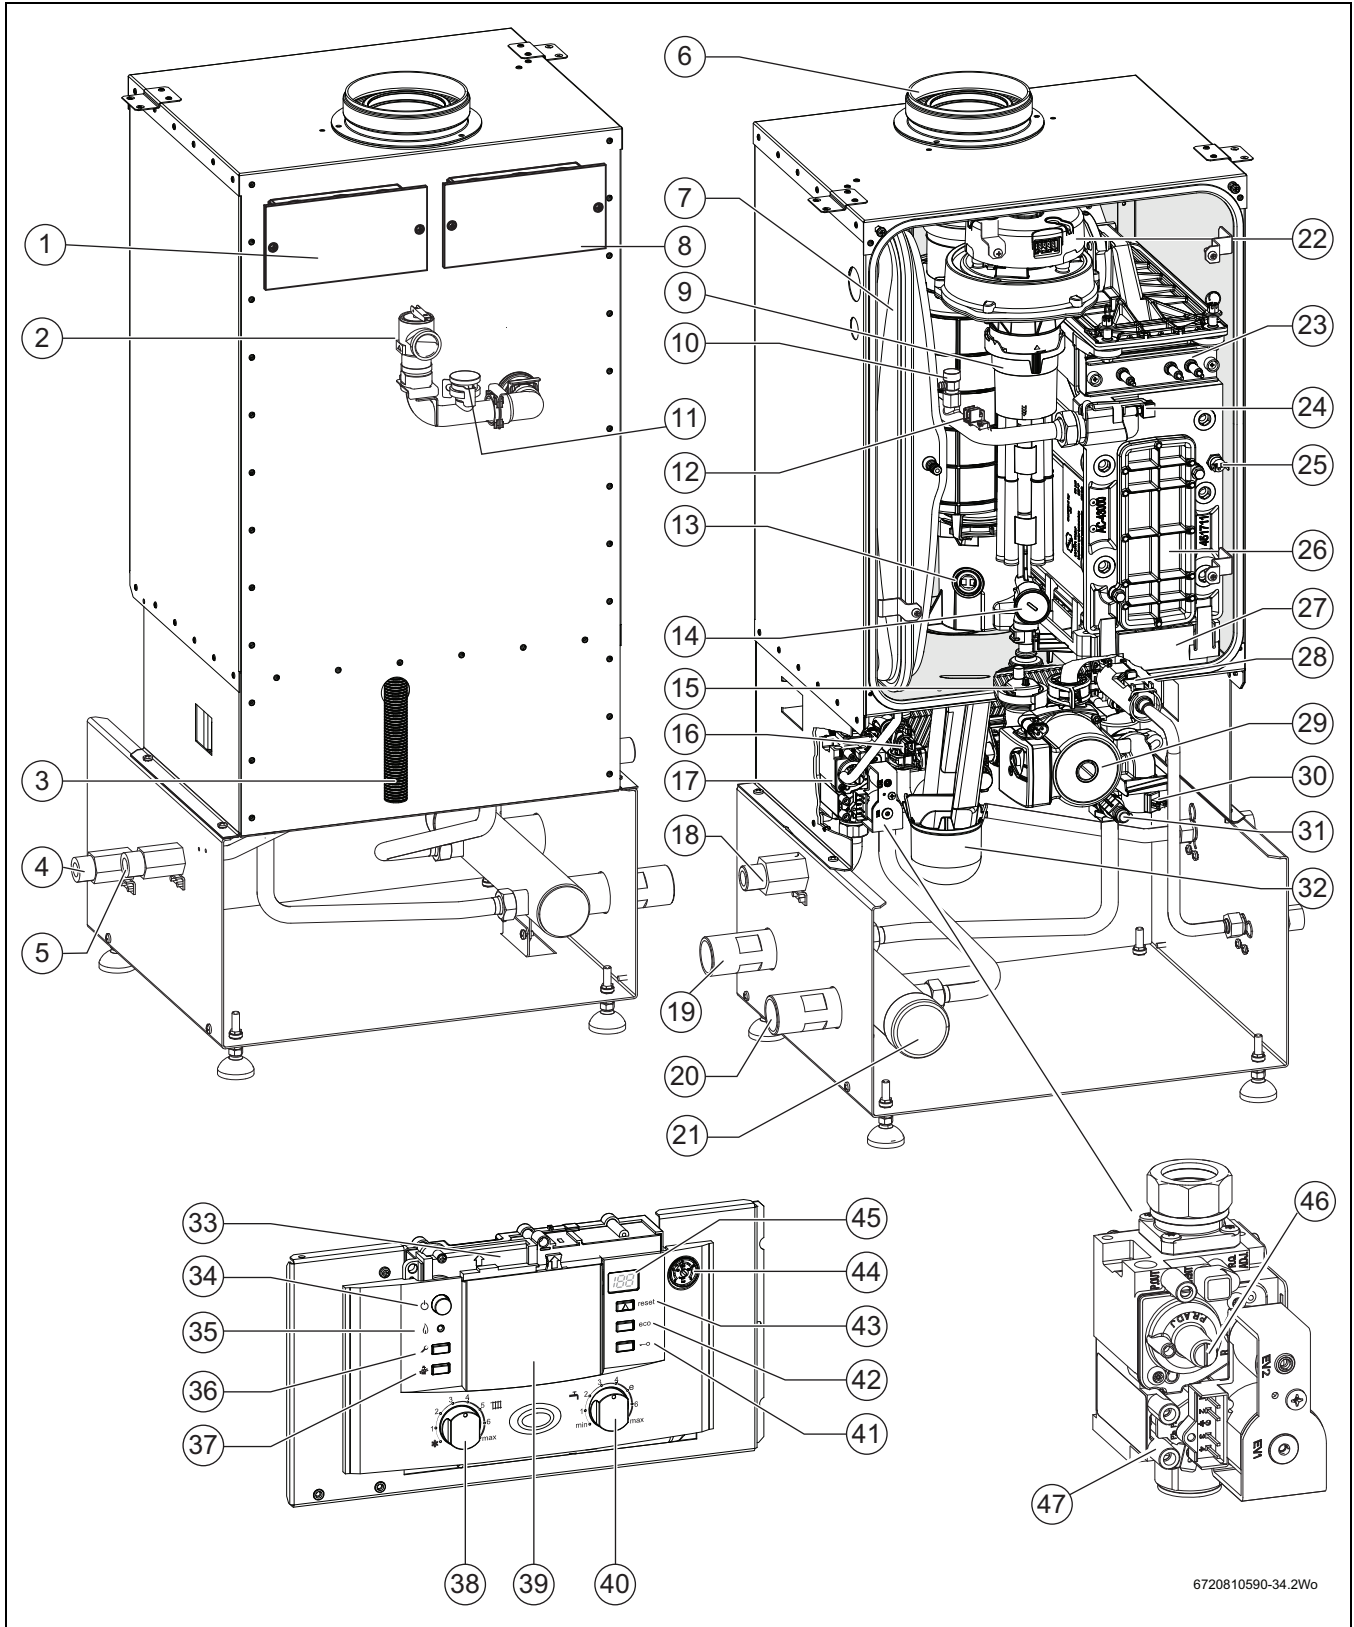

Fig. 7 Appliance layout combi boiler KWB...3A
**Key to figure 7 Combi boiler KWB..-3A:**